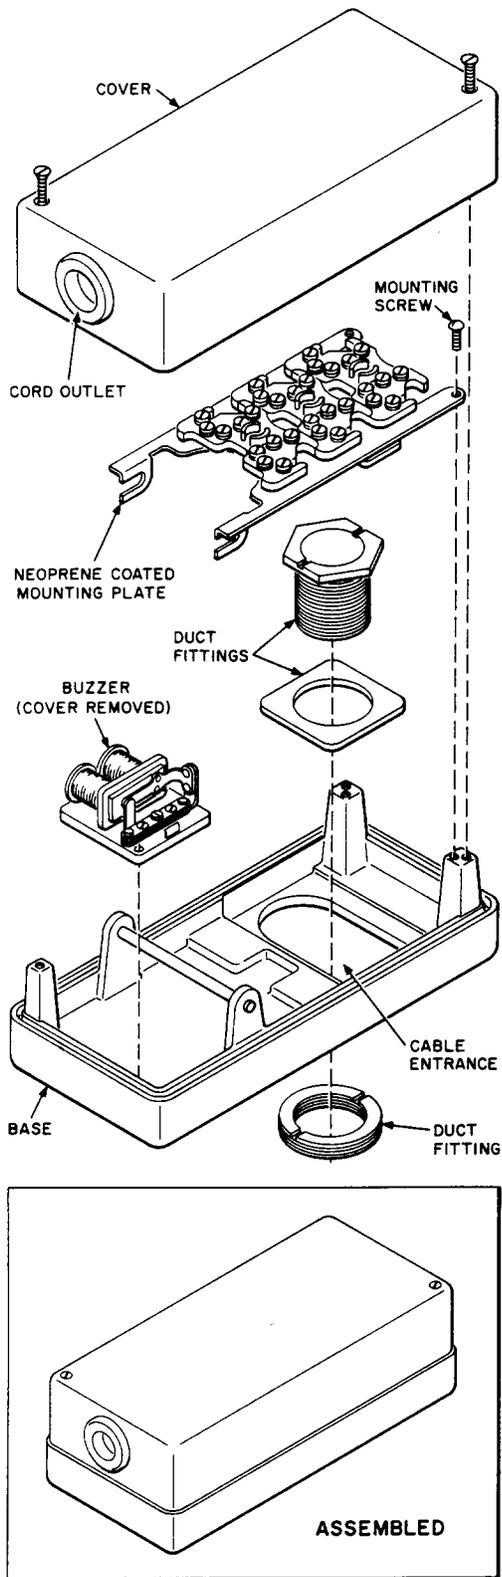

Fig. 5—Nepcoduct 7906-LC Outlet
5.06 The Nepcoduct 7906-LC outlet (Fig. 5) consists of a base, cover, and mounting plate and is similar to the 7906-LC4 except longer to provide mounting space for six 44-type connecting blocks and a 7-type or equivalent buzzer.
5.10 The Walker 506AL outlet is similar in appearance to the Nepcoduct 7906-LC in Fig. 5 and provides space for mounting six 44-type connecting blocks and a 7-type or equivalent buzzer.
5.15 The General Electric SP403 outlet is similar to the Npecoduct 7906-LC outlet in Fig. 5 and consists of a base, hinged mounting plate, and housing. It will accommodate six 44-type connecting blocks and a buzzer or up to ten 44-type connecting blocks without the buzzer. Grommets are provided on both sides to permit bi-directional station mounting cord entrance if desired.